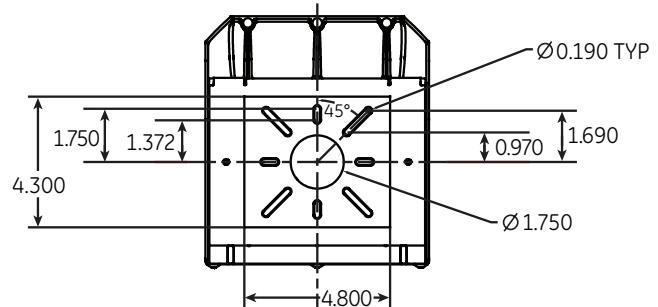

Figure 4: Plate / Mounting Box Installed
- For irregular surfaces (block, brick, etc), caulk the wall plate or mounting box to surface interface with generic non-hardening sealant (not provided) across the top, and both sides (Figure 4)